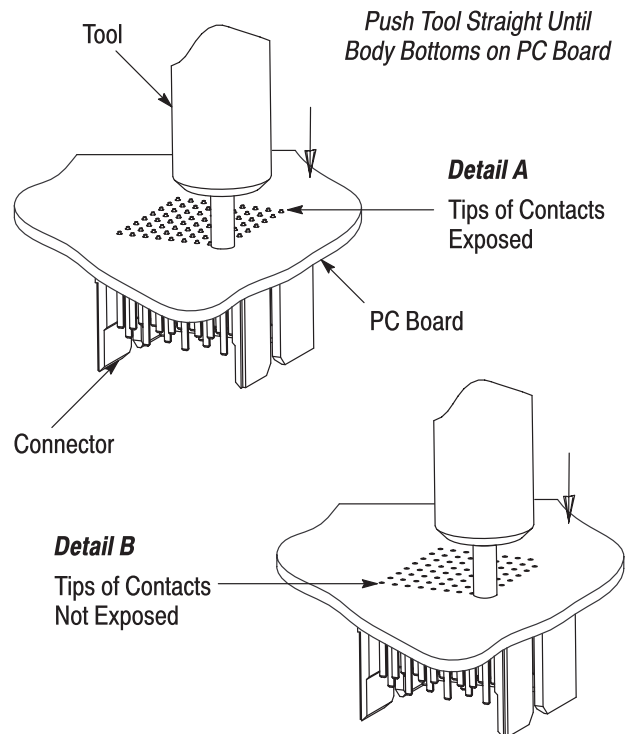

Figure 2
2. Place the end of the insert tip over the contact to be removed (see Figure 2, Detail A) or place the push pin into pc board hole of the contact to be removed (see Figure 2, Detail B).
3. Holding the tool body so that the insert tip is perpendicular to the pc board, push the tool *straight* until the body bottoms on the pc board. See Figure 2. The contact should drop out of the pc board and the connector.